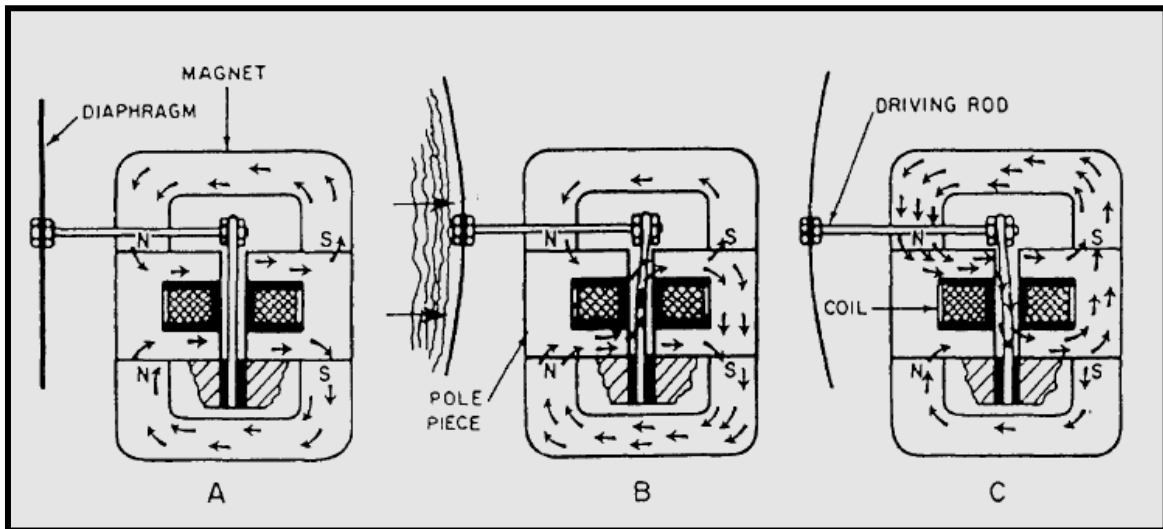

Figure 5-8.—Sound-powered transmitter receiver unit.
**SOUND-POWERED UNITS.**— The sound-powered transmitter (microphone) and receiver units in a sound-powered handset are identical and interchangeable. As illustrated in figure 5-8, views A, B, and C, a unit consists of two permanent magnets, two pole pieces, an armature, a driving rod, a diaphragm, and a coil. The armature is located between four pole tips, one pair at each end of the armature. The spacing between the pole tips at each end is such that an air space remains after the armature is inserted between them. This air space has an intense magnetic field, supplied by the two magnets that are held in contact with the pole tips.
**Principles of Operation of the Transmitter Unit.**— Sound waves are vibrations that cause compressions and rarefaction in the atmosphere in which they travel. In sound-powered telephones, the sound waves created by a speaker's voice cause the diaphragm in the transmitter unit to vibrate in unison with the sound wave vibrations. Figure 5-8, view A, shows the armature of a transmitter unit when there are no sound waves striking the diaphragm. Note that the armature is centered between the pole pieces with the magnetic lines of force passing from the north to the south pole and that there are no lines of force passing lengthwise through the armature.
Figure 5-8, views B and C, show sound waves striking the diaphragm and causing the diaphragm to vibrate. The vibrations are impressed upon the armature by the drive rod. During the compression part of the wave (fig. 5-8, view B) this action causes the armature to bend and reduce the air gap at the upper south pole. The reduction of the air gap decreases the reluctance between the upper South Pole and the armature, while increasing the reluctance between the armature and the upper North Pole. This action reduces the lines of force that travel between the two upper pole pieces. There is no large change in the reluctance at the lower poles; however, the armature has less reluctance than the lower air gap and a large number of magnetic lines of force will follow the armature to the upper South Pole.
When the sound wave rarefaction reaches the diaphragm (fig. 5-8, view C), it recoils, causing the armature to bend in the opposite direction. This action reduces the air gap between the armature and the North Pole. The reluctance between the armature and the upper North Pole is decreased and the lines of force are reestablished through the armature, this time in the opposite direction.